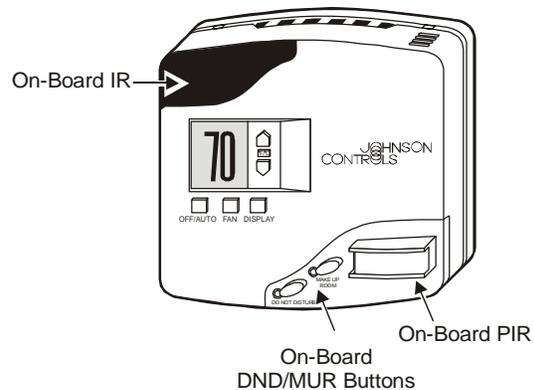

Figure 4: MRC Onboard Options
For most applications in which the MRC is installed in a guest room, this is the most cost-effective solution. The built-in PIR has dual sensors and a field of coverage of 178° (see Figure 4). It is ordered with the thermostat and requires no external wiring or commissioning.
For areas with high labor costs or particularly restrictive electrical codes, installation can be practically wireless with the addition of an onboard Infrared (IR) transceiver (see Figure 4). With the addition of this capability, other components of the system can become wireless, such as the door or window switch.
With the addition of the DND/MUR buttons on the MRC Thermostat (see Figure 4), guests can display their privacy and service needs conveniently and cost effectively. This capability can eliminate the unsightly and awkward doorknob tags. At the touch of a button, Do-Not-Disturb or Make-Up-Room is immediately displayed on the CIT or remotely displayed to housekeeping and other departments within the hotel.
There are two alternative motion sensors, which may be used with the MRC thermostat, instead of the onboard version (see Figure 4). When using the externally mounted versions, the onboard version is not used.
The wireless MDS is designed for circumstances in which structural limitations or prohibitive cost make it impractical to use a wired switch. Using a wireless switch can significantly reduce installation time and cost, particularly where local code requires conduit for low voltage wiring. When the wireless door switch is used, the onboard IR transceiver option on the MRC thermostat is required (see Figure 4).